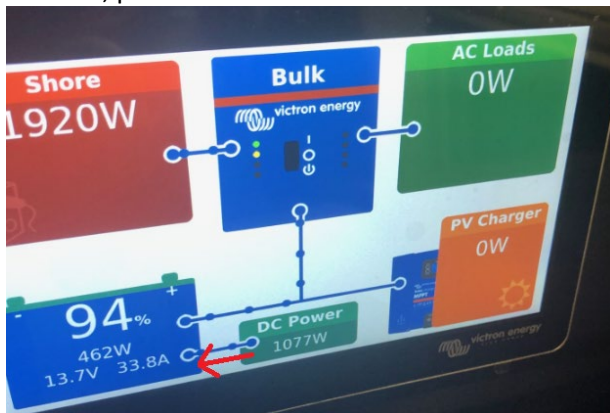

Figure 13
18. Hold the accelerator pedal to where RPMs are at 1200 or a little higher and check display screen. After a few seconds, power flow should move from DC Power to the battery. Figure 13